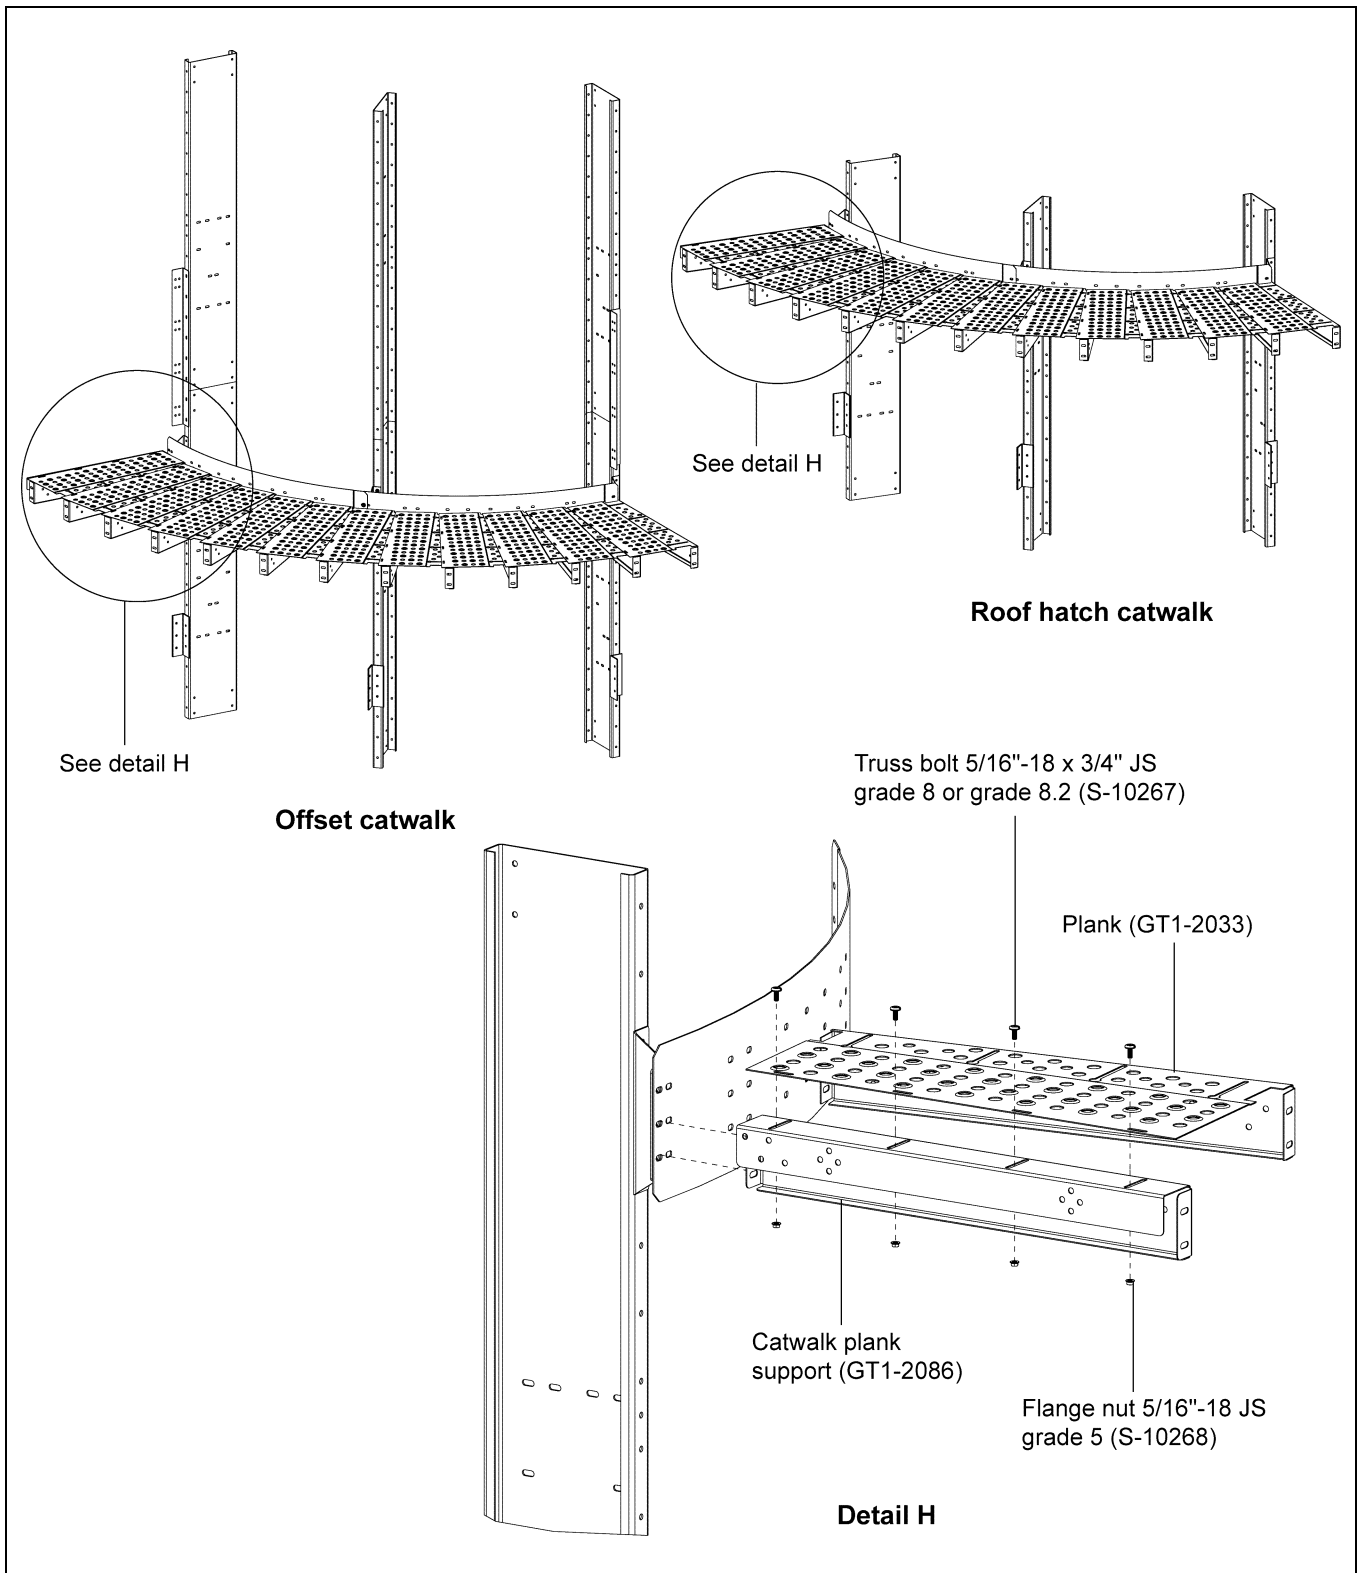

Figure 6R Plank Support (GT1-2086) Installation for Offset and Roof Hatch Catwalks
1. Once the planks are installed, install the plank support (GT1-2086) at the catwalk closing end using 5/16"-18 x 3/4" JS grade 8 or grade 8.2 bolts (S-10267) and 5/16"-18 JS grade 5 nuts (S-10268). (See Figure 6R.)